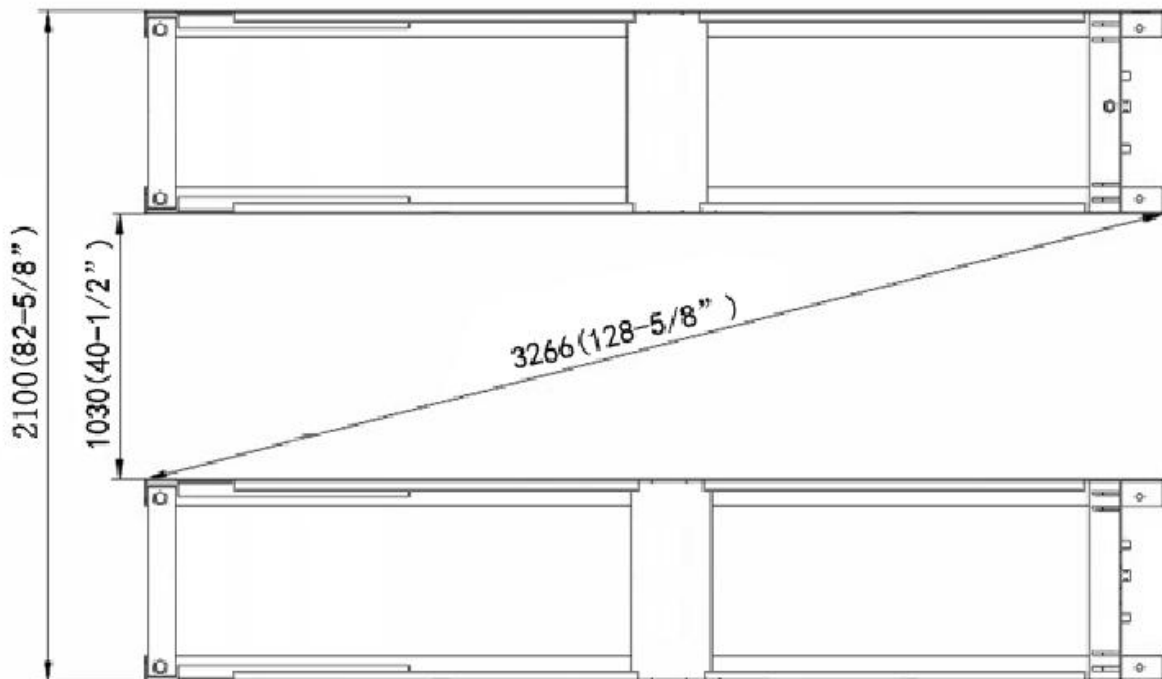

Fig. 3
- 1.1 Installation dimension for DX-5500A (See Fig. 3).